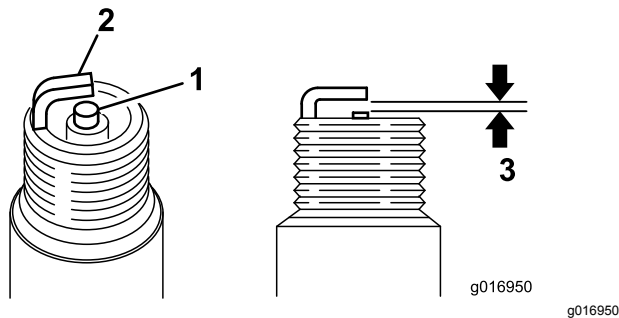

Figure 39
3. Set the air gap at 0.6 to 0.7 mm (0.024 to 0.028 inch) as shown in Figure 39. Install the correctly gapped spark plug and tighten it firmly to 23 N·m (17 ft·lb).